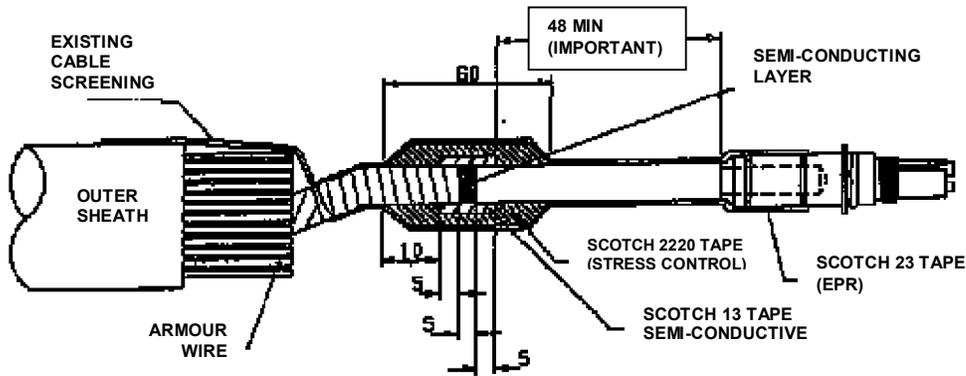

Figure 5.(Gland Plate removed for clarity)
- a) Apply two highly stretched half lap layers of Scotch 13 semi conducting tape as shown in **Fig.5** commencing at the termination of the copper tape screen extending over the semi conducting layer 5mm onto the primary insulation and back 5mm onto the copper screen.